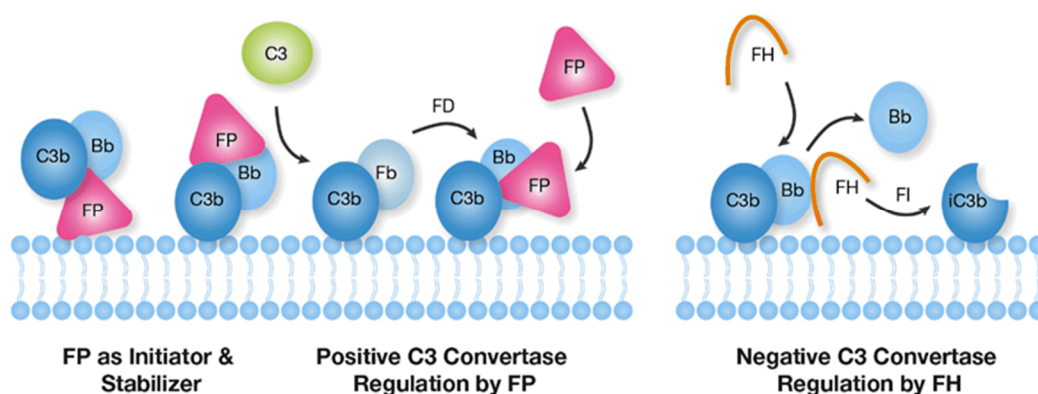

Figure 1: Factor P as stabilizer and initiator of the alternative complement pathway (left) and the opposing negative regulation by Factor H³ (right).
Factor P (Complement P, Properdin, FP) is a positive regulator and an initiator of the alternative pathway (AP) for complement activation. It binds surface-bound C3 and C5 convertases and stabilizes them to amplify the activation cascade¹. Factor P binding increases the half-life of the convertase complex approximately 10-fold². It is suggested, however debated, that Factor P also can initiate complement activation by binding for example cell surfaces or certain biological substrates, recruiting C3b or C3(H₂O) and Factor B, and thus initiate the AP pathway^{1,3}. Factor P opposes the negative regulation of Factor H that enhances the dissociation of C3b and Bb and mediates Factor I cleavage of C3b to the inactive iC3b³ (Figure 1).